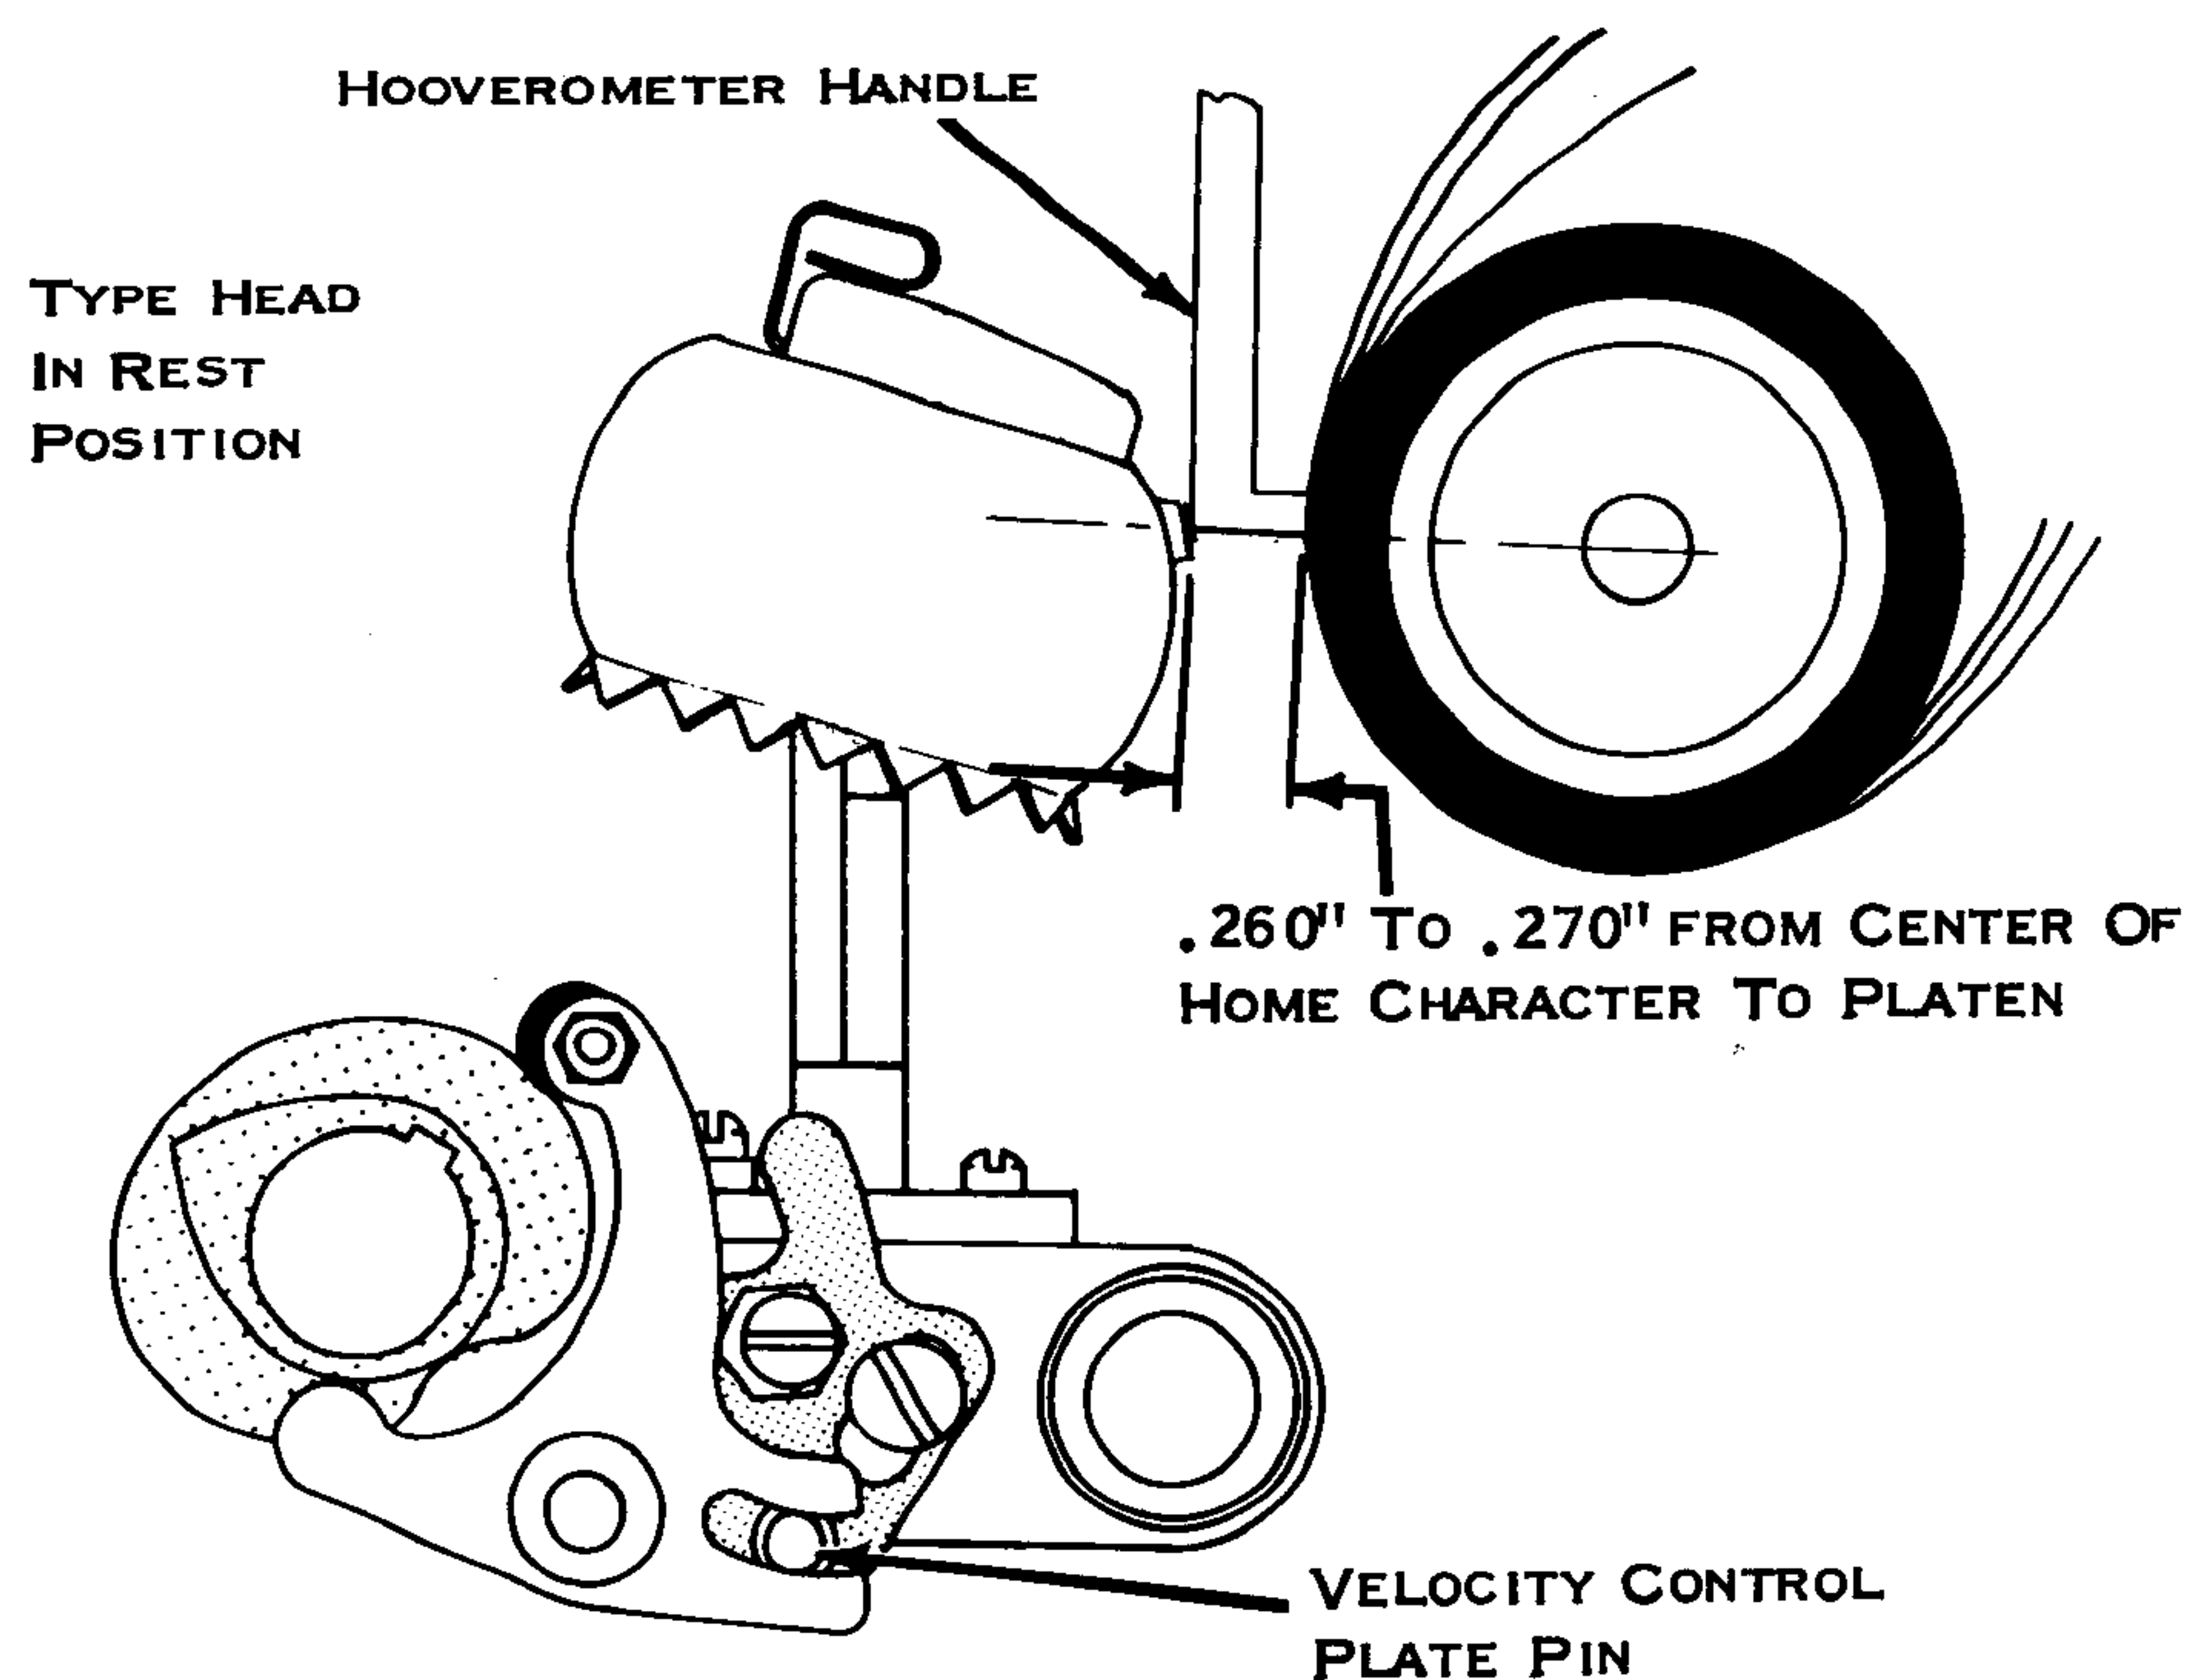
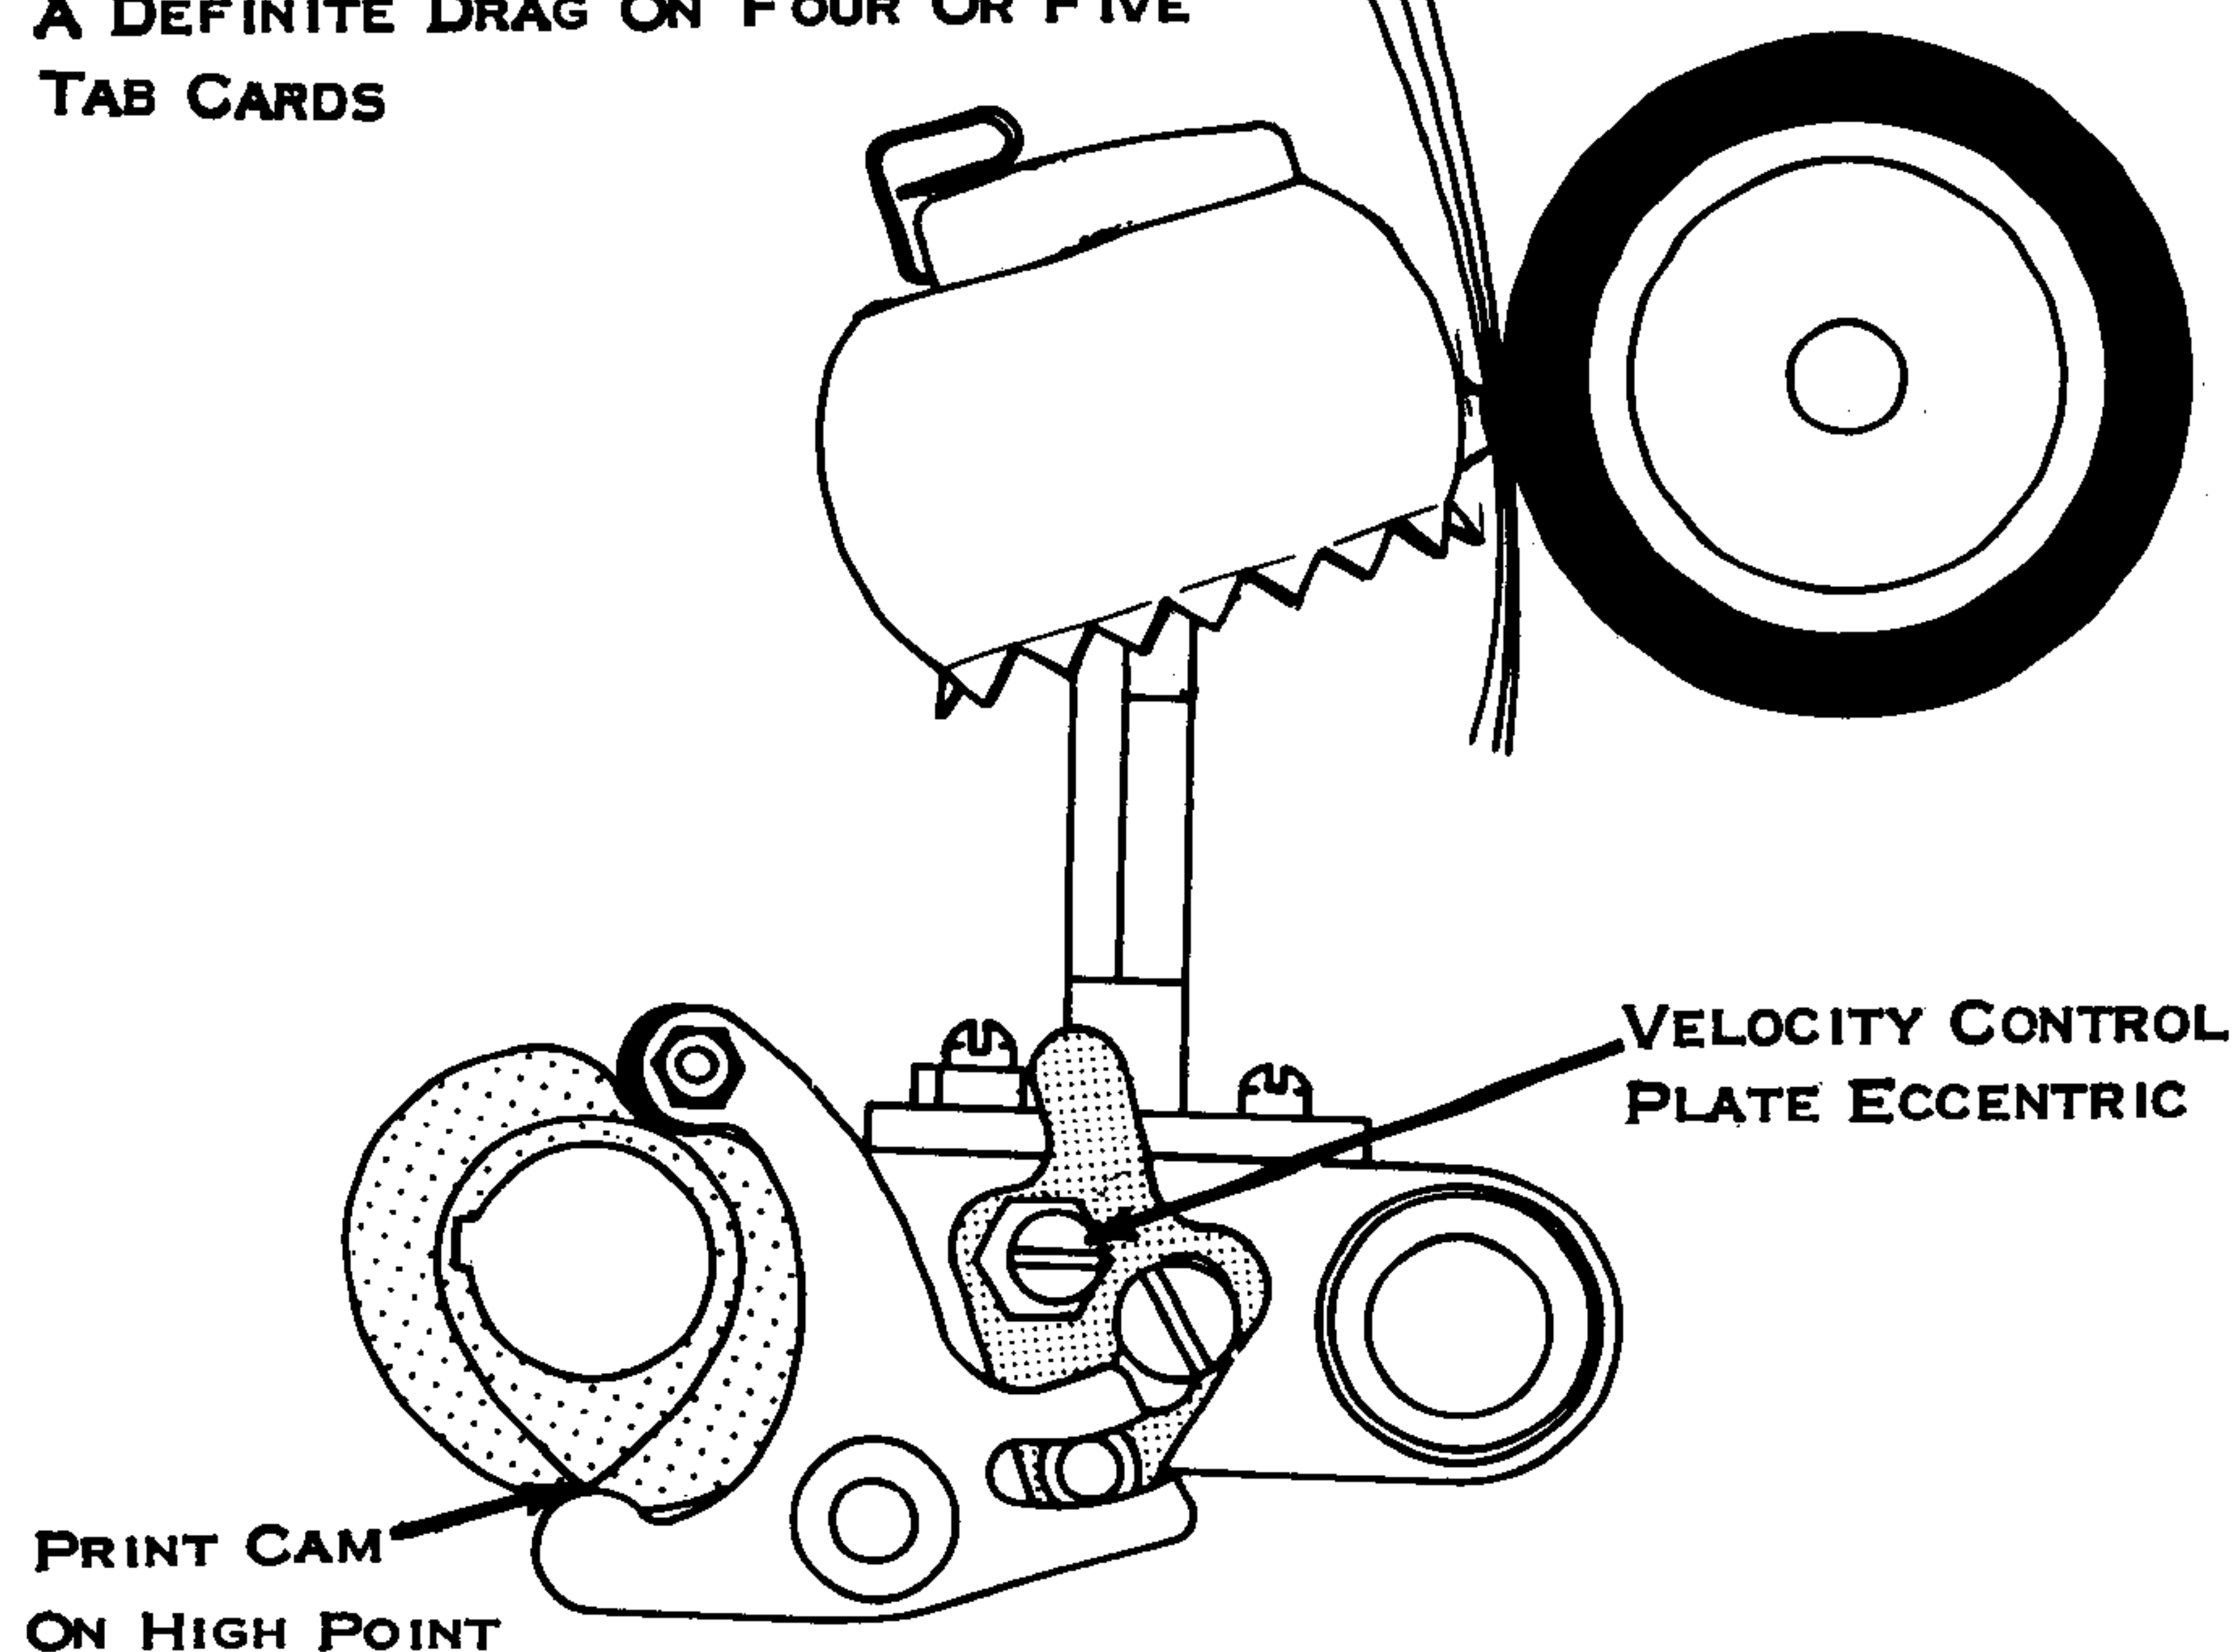

Figure 112. Adjusting Slot
Figure 113. Adjust Eccentric
9. **Velocity Control Plate** - The velocity control plate pin should be adjusted front to rear to obtain a clearance of .260" to .270" between the platen and the center of the home character with the rocker at rest. Use the Hoovermeter base as a gage with two or three data cards around the platen (Fig. 112). With the type head in the print position and held lightly toward the front of the machine, adjust the velocity control plate eccentric to obtain .020" to .030" clearance between the platen and the center of the home character (Fig. 113).